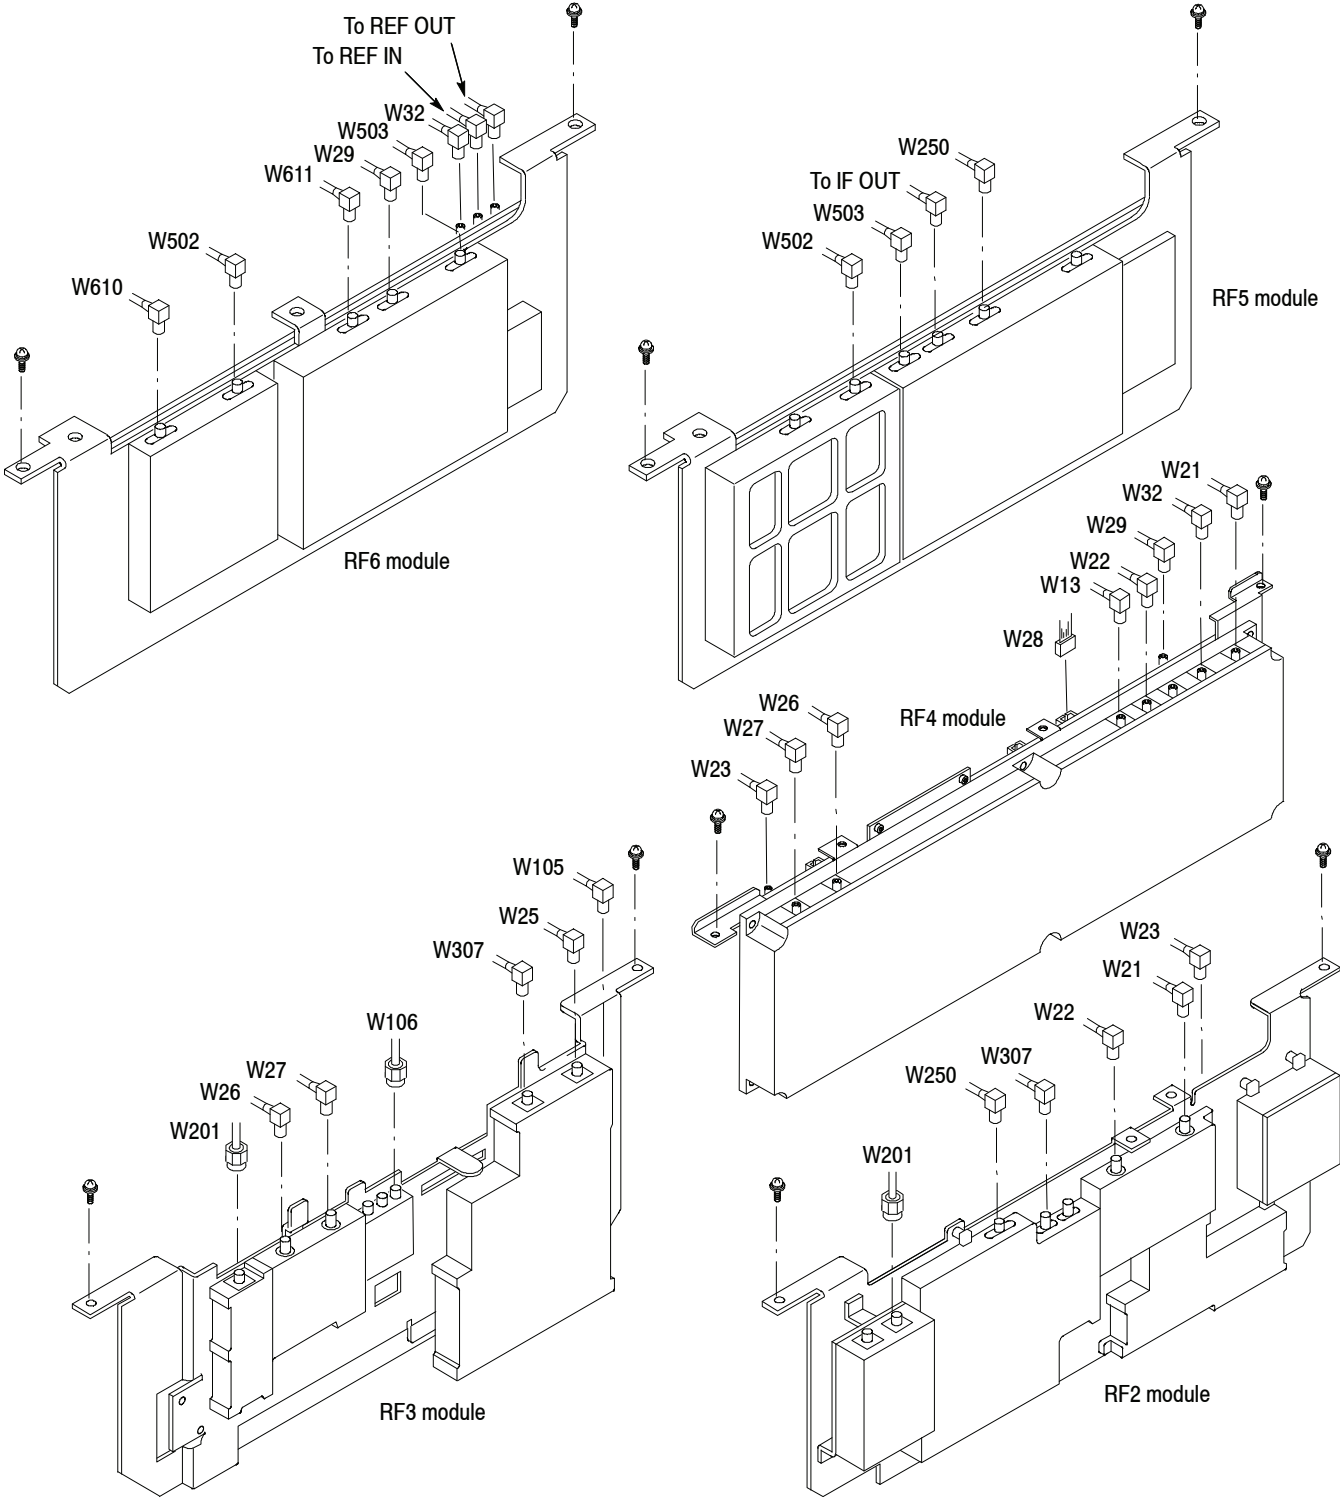

Figure 5-15: RF modules removal
3. *Remove the RF2 module:* See Figure 5-15. Also see Figure 5-37 on page 5-75 for the cable interconnection.
3. *Remove the RF3 module:* See Figure 5-15. Also see Figure 5-37 on page 5-75 for the cable interconnection.
3. *Remove the RF4 module:* See Figure 5-15. Also see Figure 5-37 on page 5-75 for the cable interconnection.
3. *Remove the RF5 module:* See Figure 5-15. Also see Figure 5-37 on page 5-75 for the cable interconnection.
3. *Remove the RF6 module:* See Figure 5-15. Also see Figure 5-37 on page 5-75 for the cable interconnection.